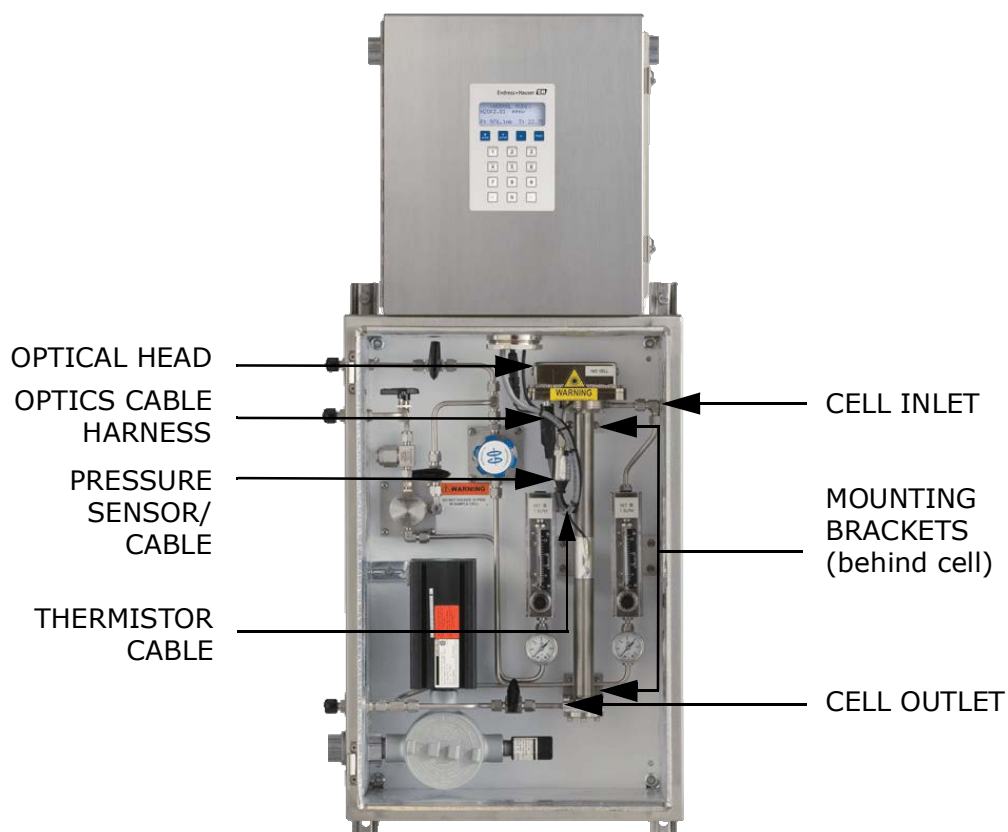

Figure B-4 SS500e/SS2000e SCS cabinet interior
5. Open the door to the gas analyzer. Refer to Figure B-4. In this view, the old model pressure sensor is pictured.